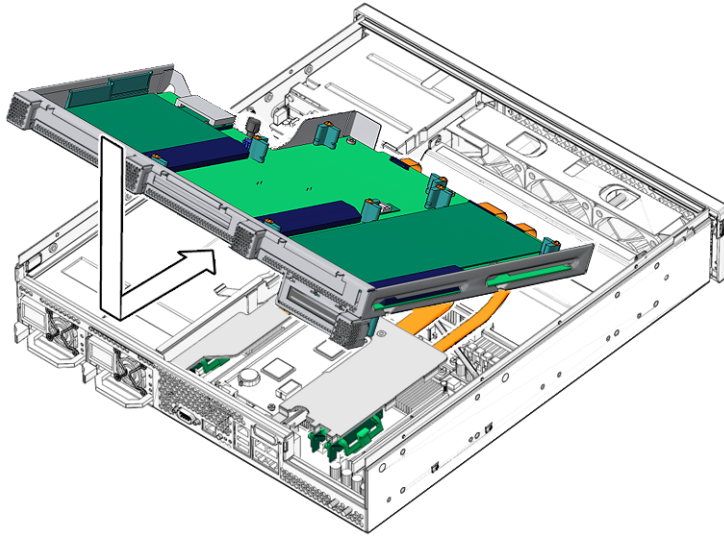

FIGURE 3-84 Lowering the PCI Tray
3. Lower the PCI tray and slide it forward (FIGURE 3-84).